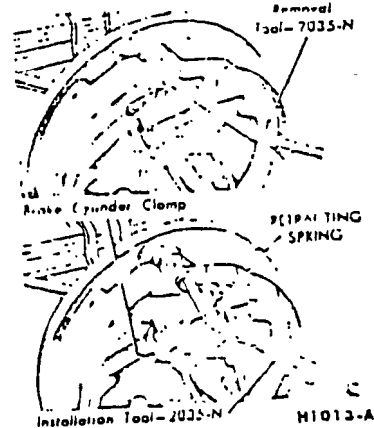

FIG. 5 Retracting Spring Replacement—Typical
2. Clamp the brake cylinder boots against the ends of the cylinder and remove the brake shoe retracting springs using Tool 2035-N (Fig. 5).
4. Install the retracting springs using Tool 2035-N (Fig. 5).